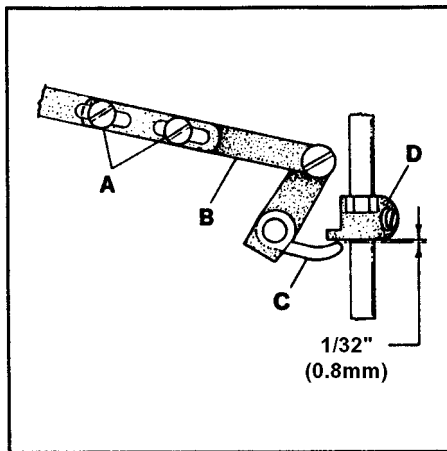

FIG. 22
Replace the presser spring and the presser bar regulating screw. Loosen screws (A, Fig. 22) in lifter lever link assembly (B) and position lever (C) so there is $1/32$ " (0.8mm) clearance between it and presser bar guide (D) when the feed dogs are below the throat plate.
NOTE: Make sure the $1/32$ " (0.8mm) clearance between the presser bar lifter lever and presser bar guide has been maintained. Refer to Fig. 22 if readjustment is necessary.